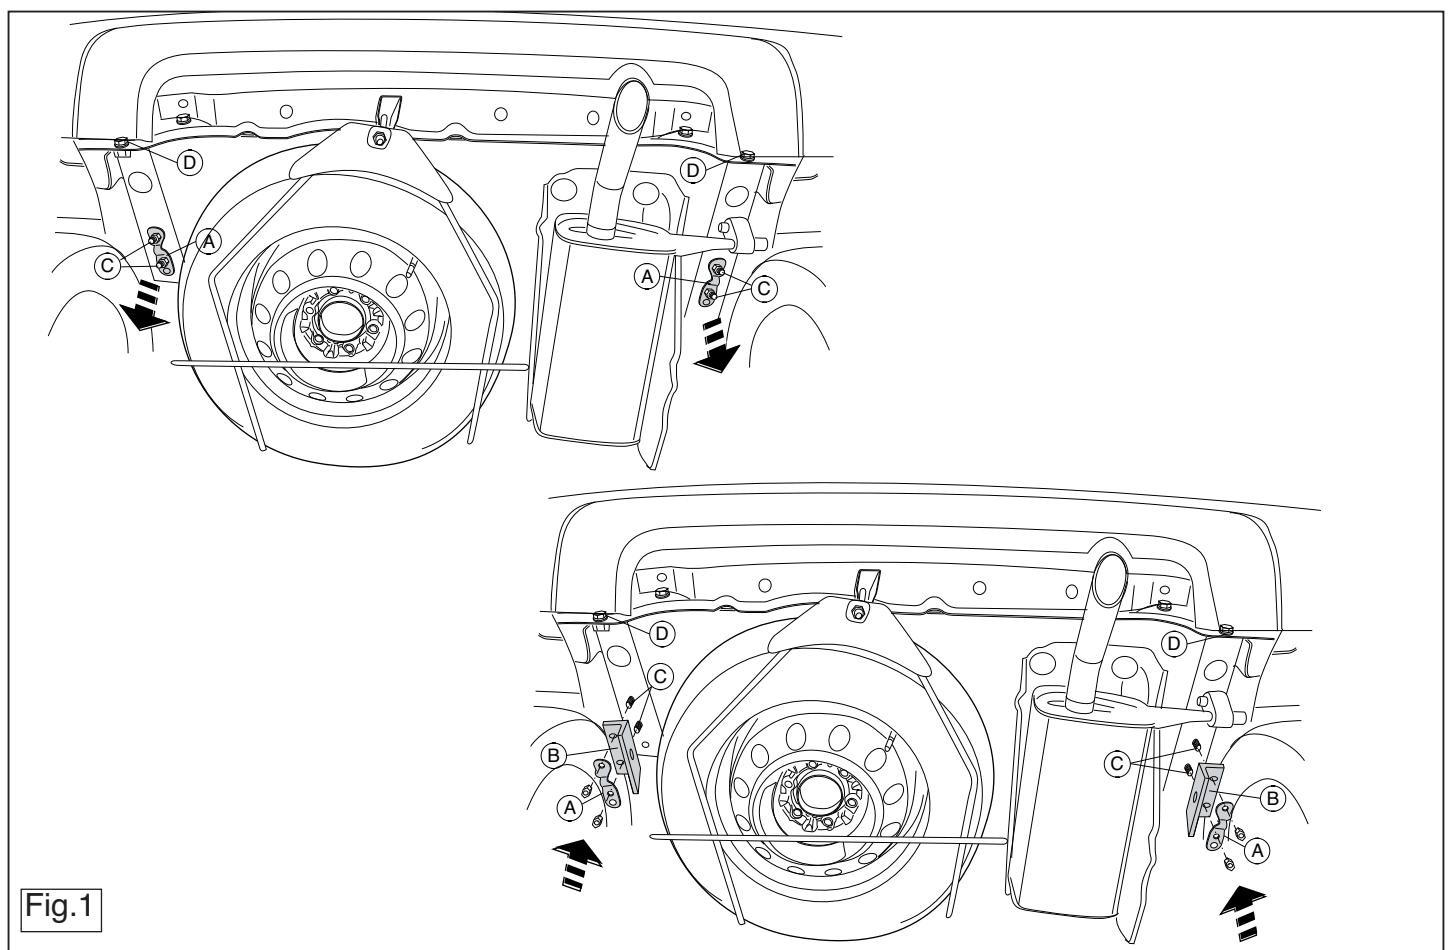

Fig.1
1. Remove if present supports A at the left and right. See figure 1.
2. Position supports B and attach them at points C, fitting the whole thing finger-tight. See figure 1.
Remove if present supports A at the left and right. See figure 1.
Position supports B and attach them at points C, fitting the whole thing finger-tight. See figure 1.
1. Falls vorhanden die Halterungen A links und rechts abmontieren. Siehe Abbildung 1.
2. Die Halterungen B anlegen und bei den Punkten C halbfest anbringen. Siehe Abbildung 1.